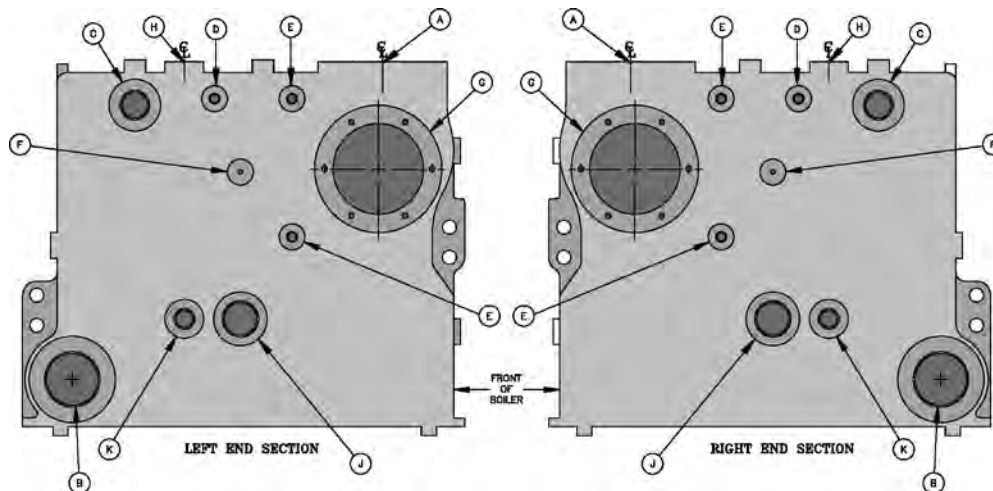

FIG. 7
8. **USE THE PLUGS IN THIS CARTON** to plug tappings in End Sections that will not be utilized on final installation, see Fig. 7.